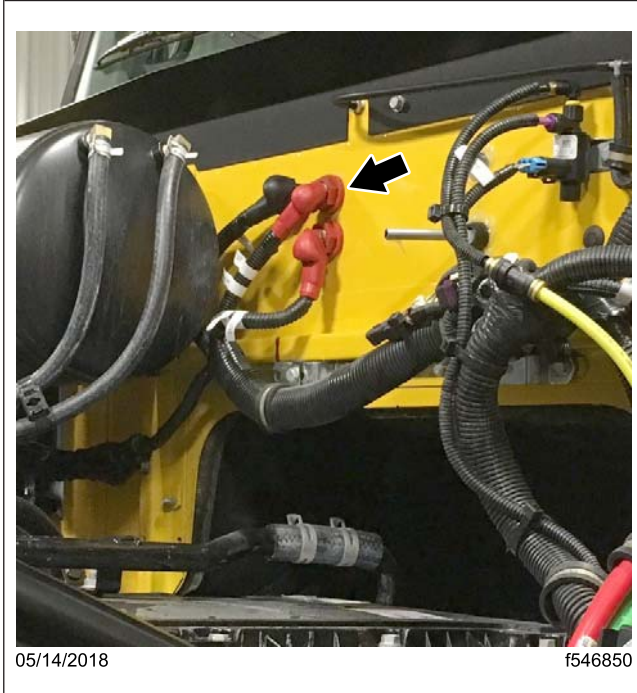
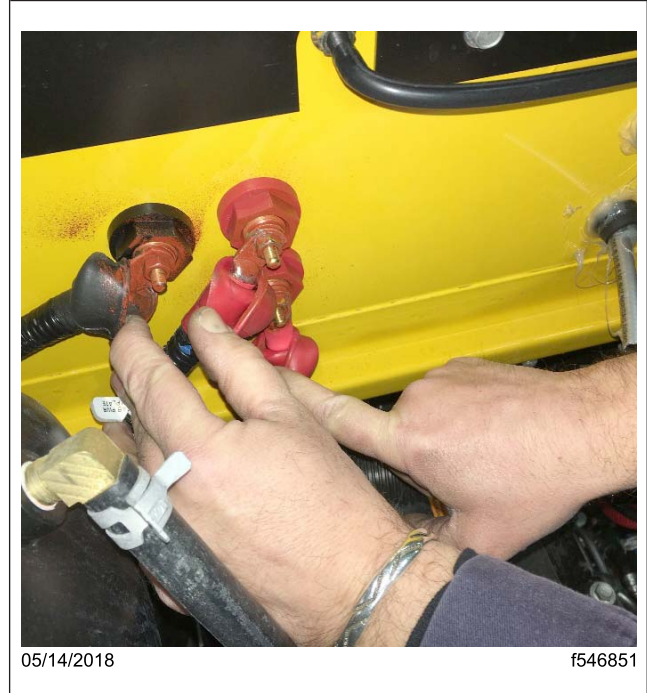
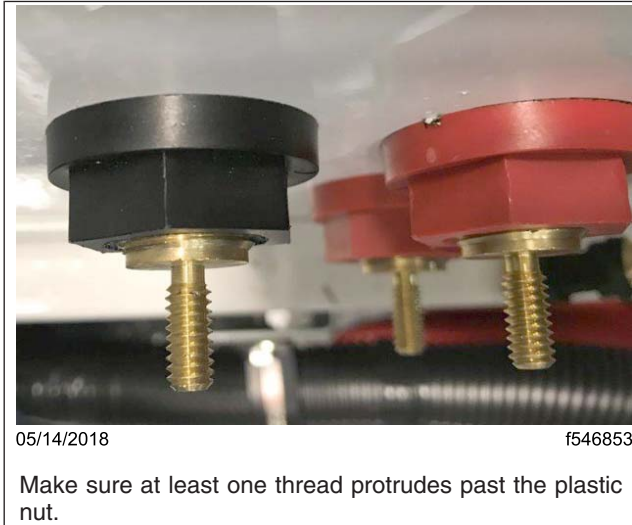

Fig. 1, Power Cable Stud Connector Location
Fig. 2, Removing Connector Protective Cover
Fig. 4, Correctly Installed Pass-Through
1. Open the hood and locate the three or four power cable stud connectors on the front wall. See Fig. 1.
2. Pull back the covers on the power cable stud connectors. See Fig. 2. Inspect each cable stud to make sure at least one thread protrudes past the plastic nut. See Fig. 3 and Fig. 4.
2. If not already done, open the hood and locate the three or four power cable stud connectors on the front wall, and pull back the cover on the power cable stud connector. See Fig. 1 and Fig. 2.